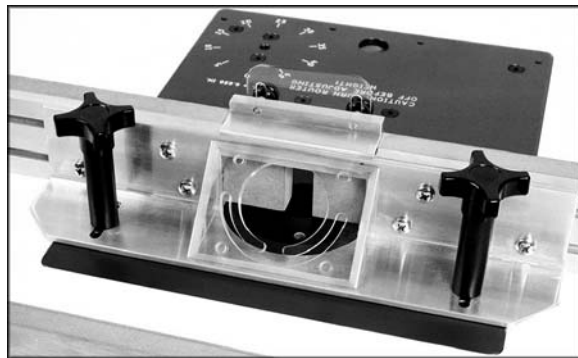

Figure 13
7. Mount the assembled fence to the main plate of the ROUT-R-LIFT with one fence knob in each of the threaded holes in the top corners of the plate (Fig. 13).